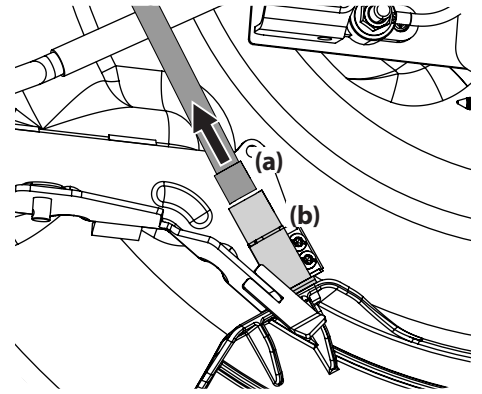

Figure 4-9
6. Unplug the wire connector (a) from the safety switch (b) at the rear of the chute opening. See Figure 4-9.
3. Plug the wire connector (a) into the safety switch (b) at the rear of the chute opening. See Figure 4-9.
Note: Be sure to securely reconnect the wire connector to the safety switch in Figure 4-9, you tractor will not start or operate without the safety switch properly connected.